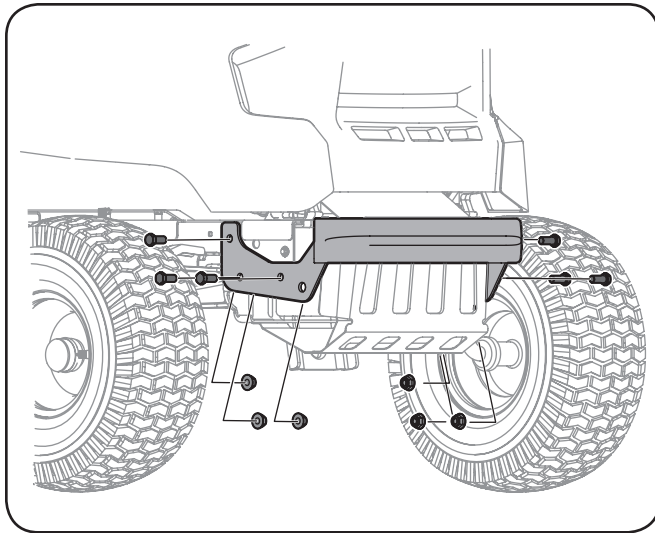

Figure 3-1
- Using two $\frac{3}{16}$ " wrenches, secure the bumper to the tractor frame with six hex screws and flange lock nuts. See Figure 3-1.